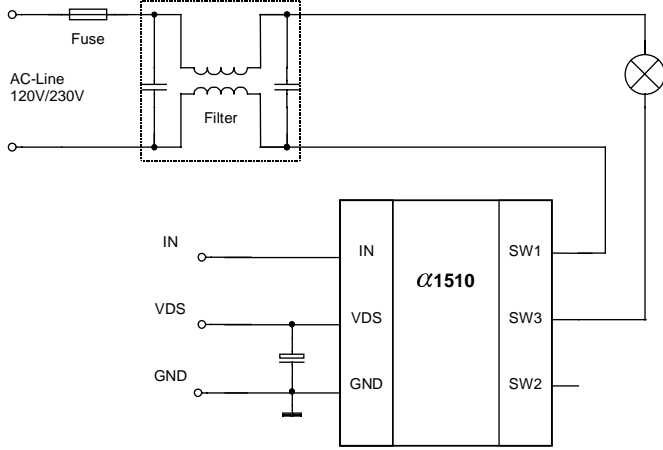

Fig.2 Remote control of an incandescent lamp
- Remote control of an incandescent lamp (See Fig.2)